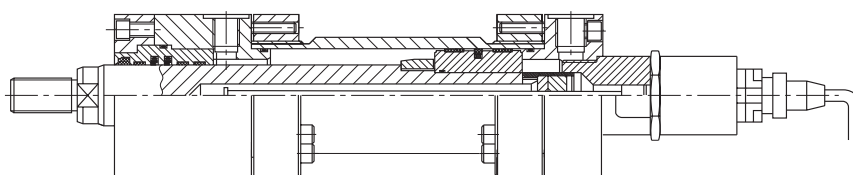

Fig. 2 Transductor magnetostrictivo.
(B) TRANSDUCTOR MAGNETOESTRICTIVO MAGNETOSTRICTIVE TRANSDUCER (Fig. 2)